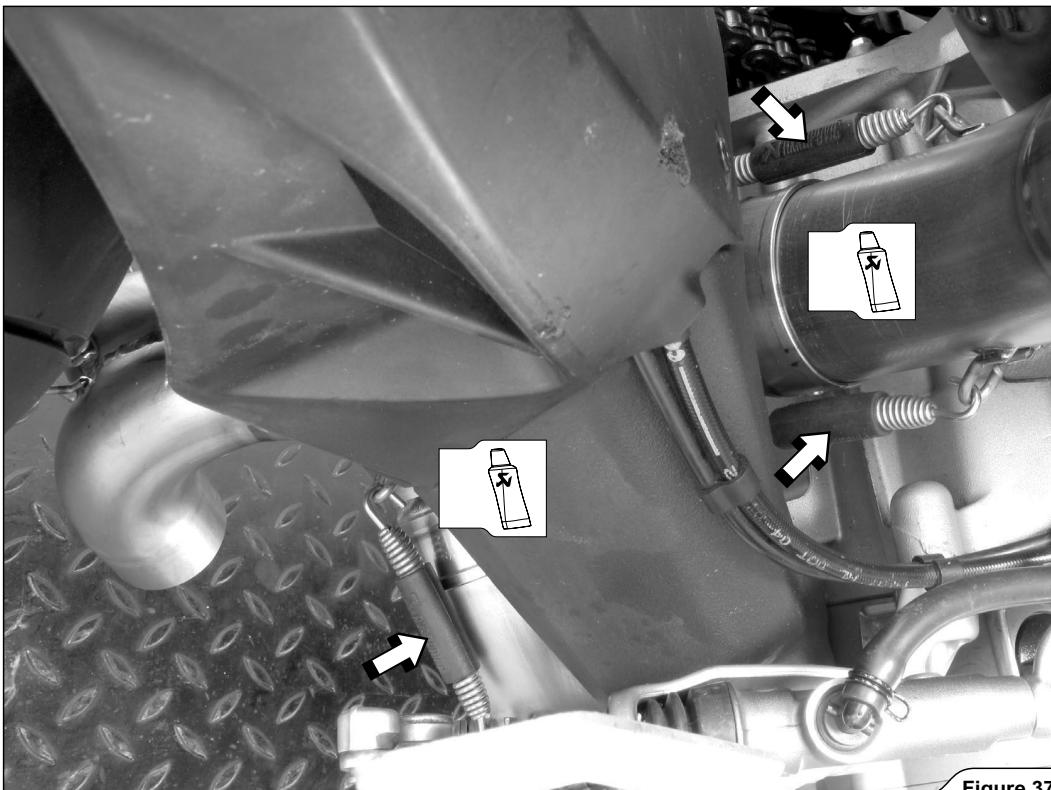

Figure 37
- Slide the collector onto both link pipes and attach the springs (Figure 37).